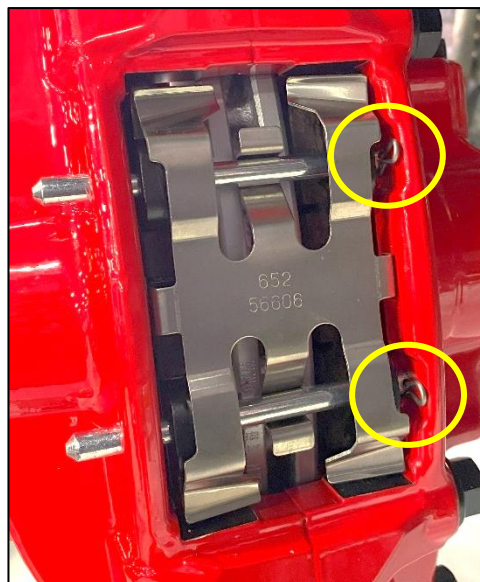

Figure 14
24. Locate (2) two Cotter Pins. Insert them through the Brake Pad Retaining Pins installed in *Step 23*. The Retaining Pins may need to be rotated to allow access to the Cotter Pin Holes. *Figure 14.*